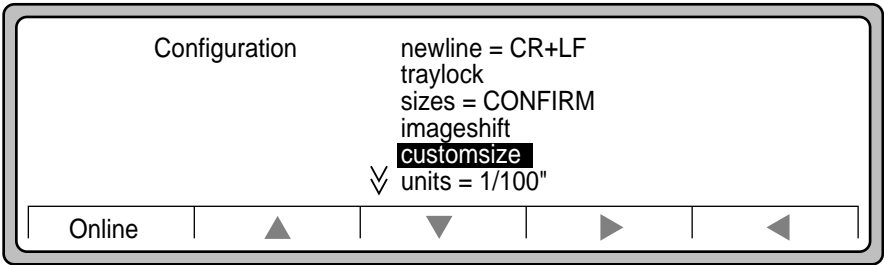

Figure 3-21 Customsize selection
- 13. Press ▲ to highlight customsize (Figure 3-21).